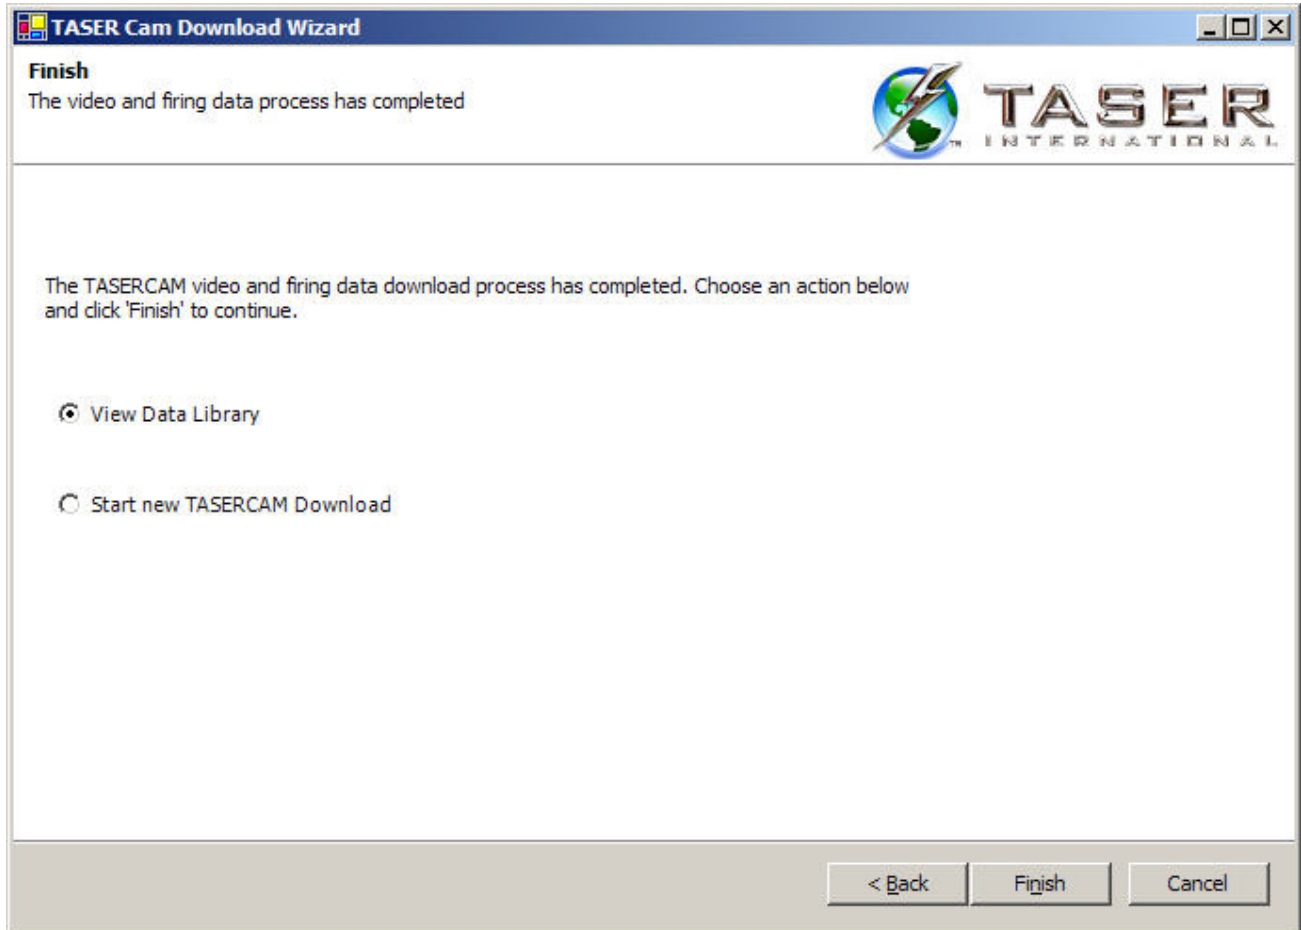

Figure 19
10. After the incidents and firing records have been downloaded, you can view the data library (lists all the video and firing records that have been downloaded to the PC) or download another TASER CAM and/or X26 (Figure 19).